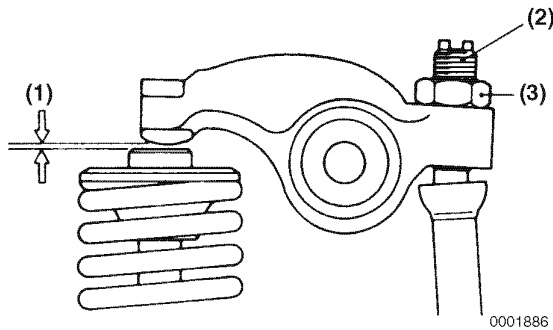

Figure 8-32
3. Check the valve clearance (**Figure 8-32, (1)**) using a feeler gauge. If adjustment is required, proceed to the next step. *See Valve Clearance on page 8-4* for the specification.
4. Loosen the adjusting screw locknut (**Figure 8-32, (3)**). Turn the valve adjustment screw (**Figure 8-32, (2)**) to adjust the valve clearance so there is a slight "drag" on the feeler gauge when sliding it between the rocker arm and the valve cap. Hold the adjusting screw while tightening the valve adjusting screw locknut. Recheck the clearance.